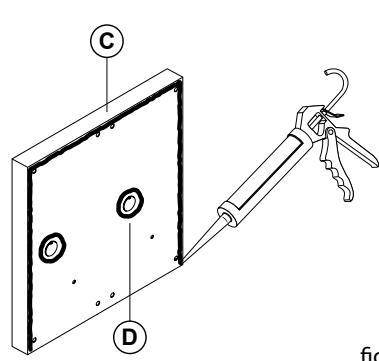

fig. 3
**⚠ In order to prevent water ingress we highly recommend using a silicon sealant between the wall and the back box **C** (**Fig.3**) and around all holes **D** (**Fig.3**);**